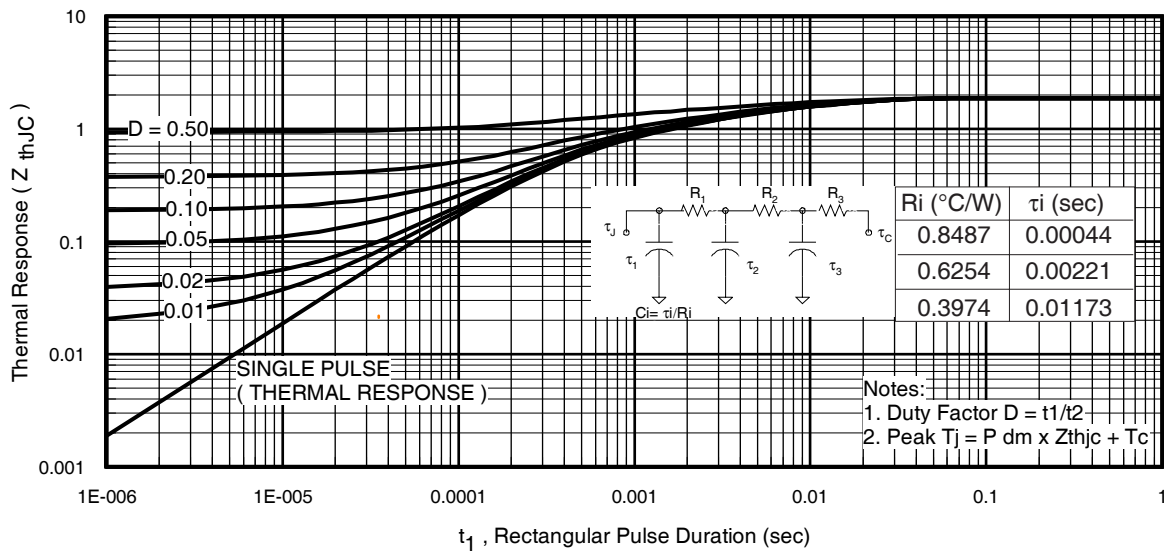

Fig 11. Maximum Effective Transient Thermal Impedance, Junction-to-Case
- ① Repetitive rating; pulse width limited by max. junction temperature. (See fig. 11).
- ② Limited by T_{Jmax}, starting T_J = 25°C, L = 0.18mH, R_G = 25Ω, I_{AS} = 31A, V_{GS} = 10V. Part not recommended for use above this value.
- ③ I_{SD} ≤ 31A, di/dt ≤ 840A/μs, V_{DD} ≤ V_{(BR)DSS}, T_J ≤ 175°C.
- ④ Pulse width ≤ 1.0ms; duty cycle ≤ 2%.
- ⑤ C_{oss eff.} is a fixed capacitance that gives the same charging time as C_{oss} while V_{DS} is rising from 0 to 80% V_{DSS}.
$Z_{thJC}(D, t_{av})$ = Transient thermal resistance, see figure 11)